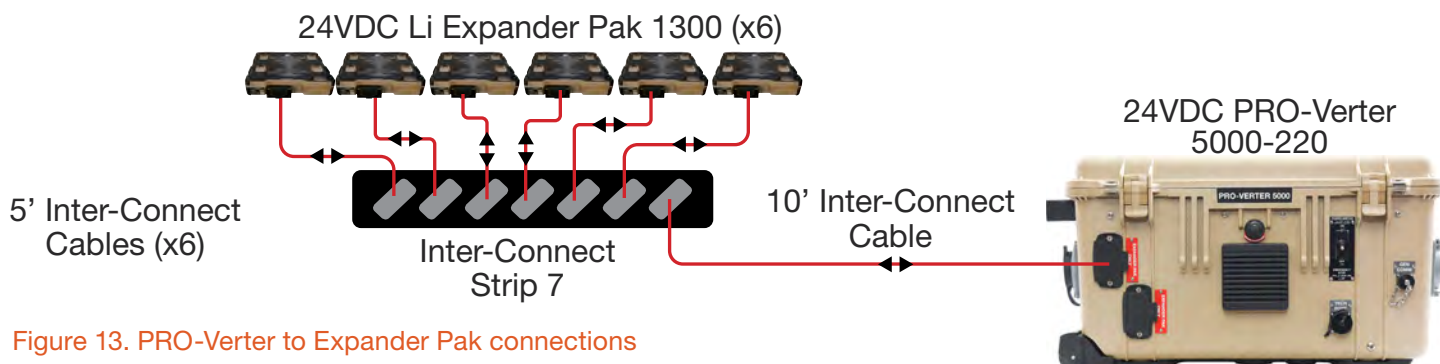

Figure 13. PRO-Verter to Expander Pak connections
Connect six (6) Expander Paks to the Inter-Connect Strip with six (6) 5' Inter-Connect Cables. Connect the Inter-Connect Strip to the PRO-Verter with one (1) 10' Inter-Connect Cables. All of these are red-to-red connections (Figure 13).